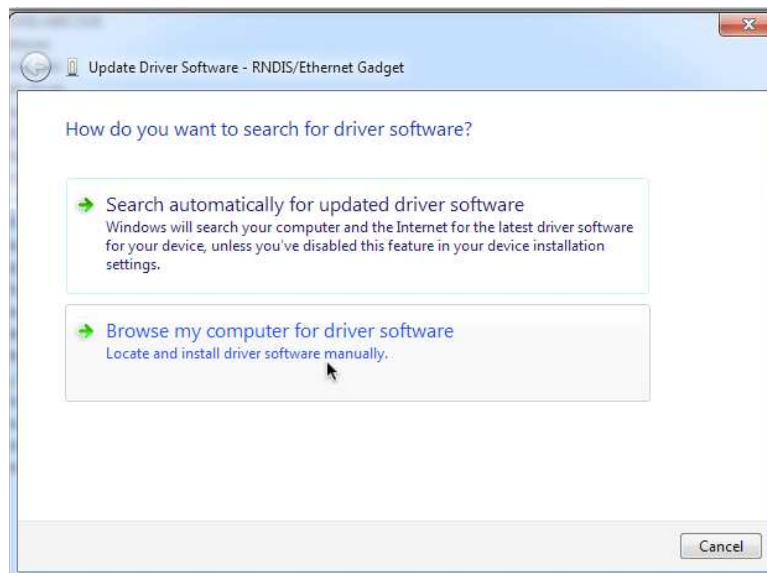

Figure 2-7. Windows 7 Update Driver Software Search or Browse Window
4. Select “Browse my computer for driver software” from the “Update Driver Software” window. See Figure 2-7.